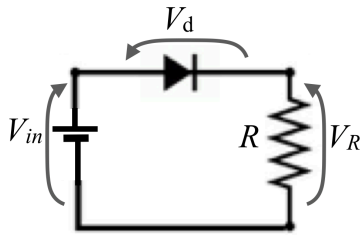

Fig. 3: Diode characterization circuit.
a) For the circuit of Fig. 3, and assuming an ideal diode with $V_t = 0.6 \text{ V}$, what are the potential differences across the diode V_d and across the resistor V_R as the input bias voltage V_{in} is varied from 0 to 10 Volts? Draw the equivalent circuits to help you work this out, and draw sketches of V_d vs V_{in} and V_R vs V_{in} .